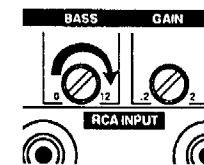

Figure 8
5. If, you desire more BASS output, adjust the "BASS EQ" level "clockwise". The adjustment range is from "0" to "+12 dB". We recommend using as little Bass EQ as possible. Remember boosting +12 dB at 45 Hz requires the amplifier to work 16 times harder! (see Figure 8 .)